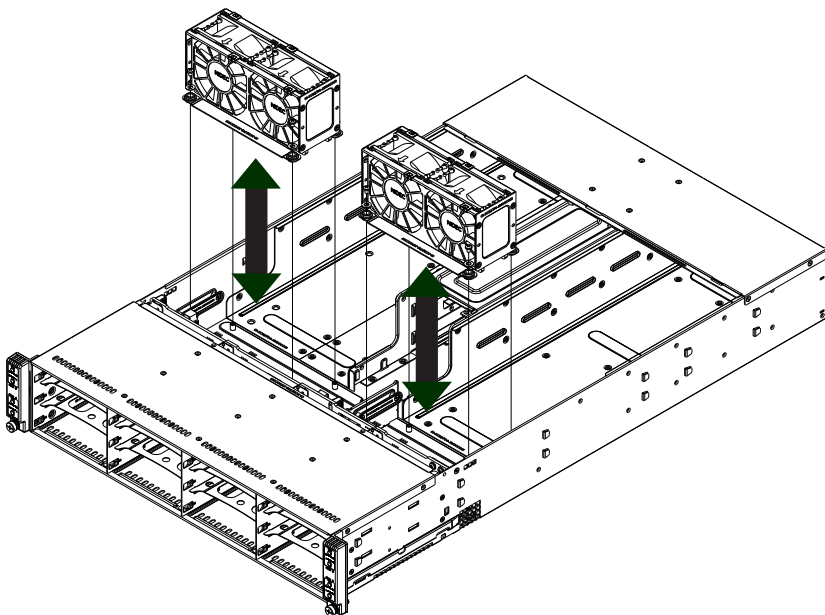
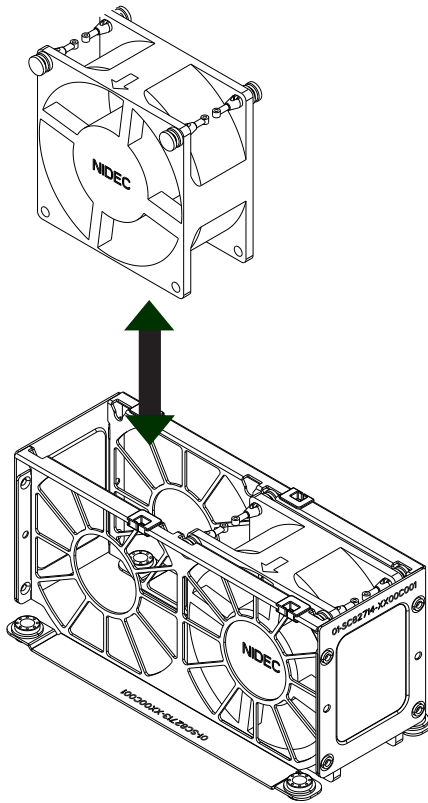

Figure 6-4. System Fan Placement
Figure 6-5. Replacing a System Fan in the Fan Housing
The chassis is designed so that the default configuration of the system is for each serverboard to control two fans (Figure 6-4). The fans are hot-swappable. Each serverboard node in the chassis is connected to the backplane through the adapter card, mounted in the serverboard drawer. In the event that one of the serverboard drawers is removed, then the remaining serverboard will operate the fans.
6. Put the fan back into the chassis and reconnect the cable (see Figure 6-4 and Figure 6-5 for details).